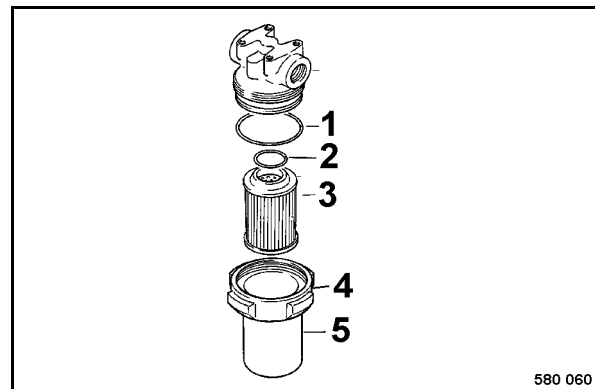

Fig. 175
- Unscrew the cap nut 4 (Fig. 175) and take the filter bowl (5) with the filter element (3) off.